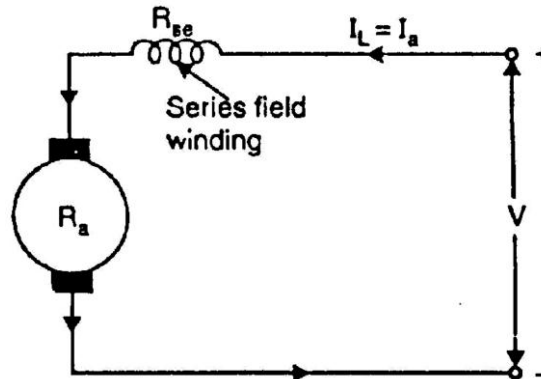

Fig. 2.
- (ii) **Series-wound motor** in which the field winding is connected in series with the armature [See Fig. 2]. Therefore, series field winding carries the armature current. Since the current passing through a series field winding is the same as the armature current, series field windings must be designed with much fewer turns than shunt field windings for the same m.m.f. Therefore, a series field winding has a relatively small number of turns of thick wire and, therefore, will possess a low resistance.